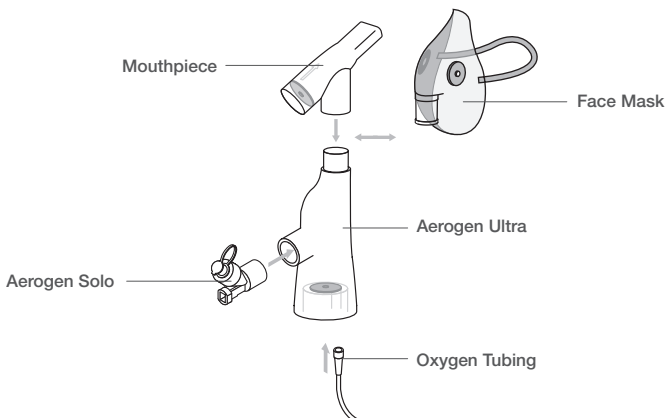

Figure 4. Assembly of Aerogen Ultra
1. Insert Aerogen Solo nebuliser firmly into Aerogen Ultra in orientation shown in Figure 4.